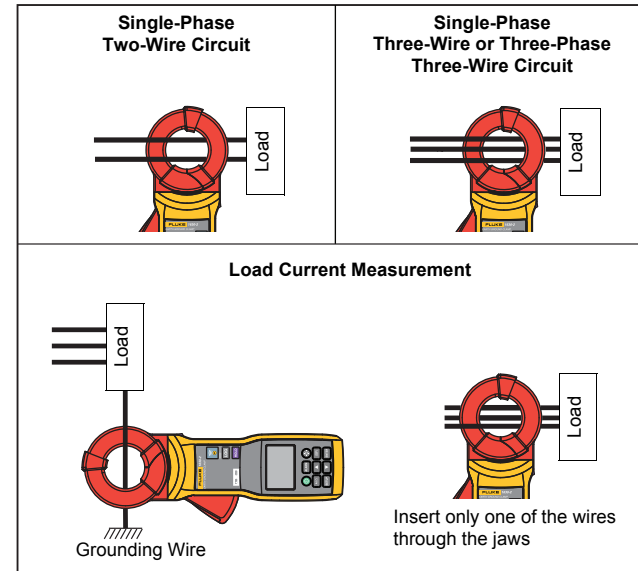

Figure 9. AC Leakage Current Measurement
4. Attach the Clamp to the electrode, conductor, or ground rod for measurement. Figure 9 shows several connection types for an AC leakage current measurement.